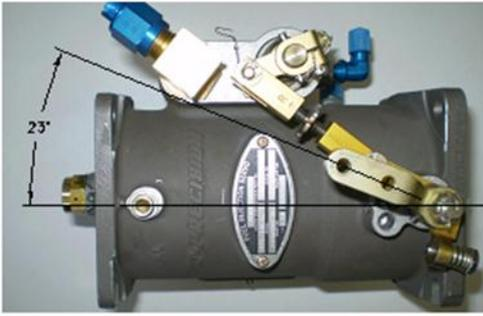
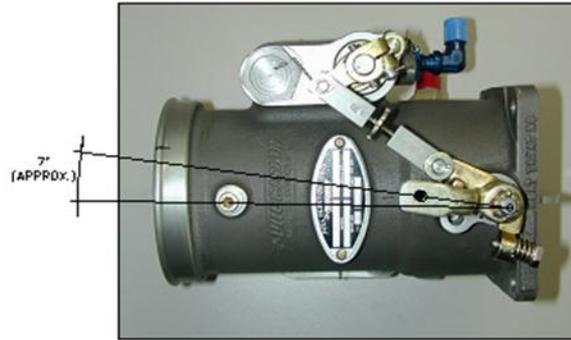

Figure 2: TC - Throttle Side
Figure 3: NA - Throttle Side
- b. Replace the spring with item 2 and increase the tension of the spring, as required.
- c. Reposition the lever to full throttle from the centre line of the injector body, as shown in Figure 2 for the Turbocharged GA8-TC 320 (TC) and Figure 3 for the Normally Aspirated GA8 (NA), and place the lever back on the link.